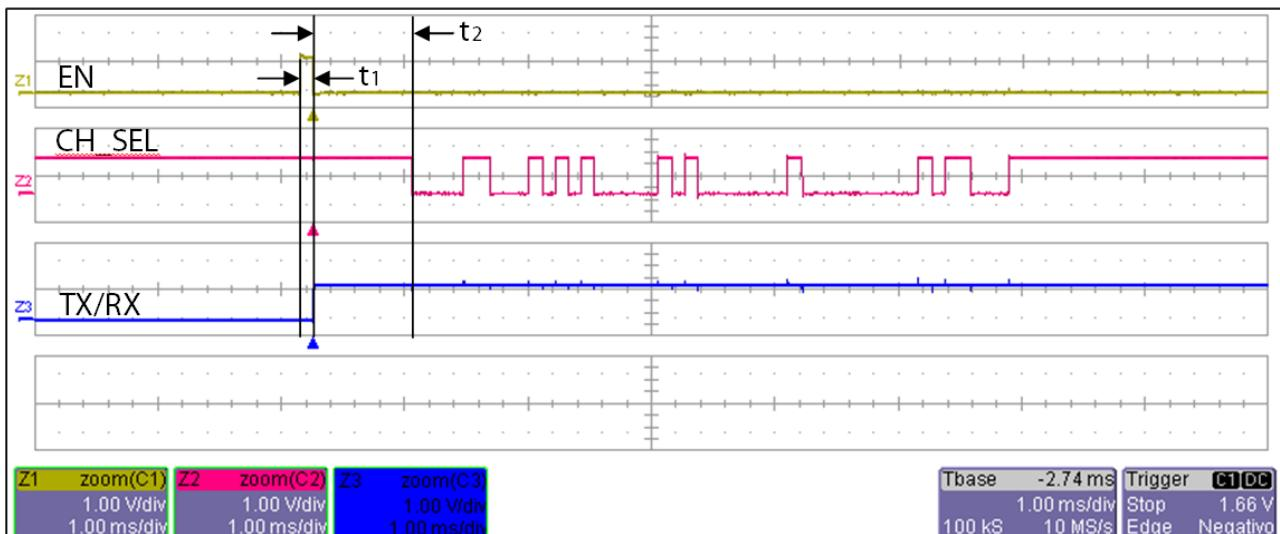

Figure 1: timings. $80 \mu\text{s} < t_1 < 120 \mu\text{s}$; $t_2 > 1 \text{ ms}$
- generate a high pulse **t1** with a duration within **80 µs and 120 µs** on EN line (see Figure 1).
- The time **t2** between the end of the pulse on EN line and start of data transmission on CH_SEL must be at least **1 ms** (see Figure 1).